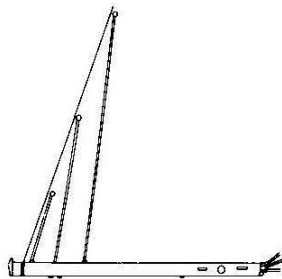

Fig. 20 (STD RIG)
(1) Rigging the Reef Line:
Three (3) reef lines are rigged onto the boom. The aftermost line is the first reef line (see Fig. 20). Reeve it through the first reef cringle on the leech and secure it to the eye on the top of the boom on the opposite side by a bowline.